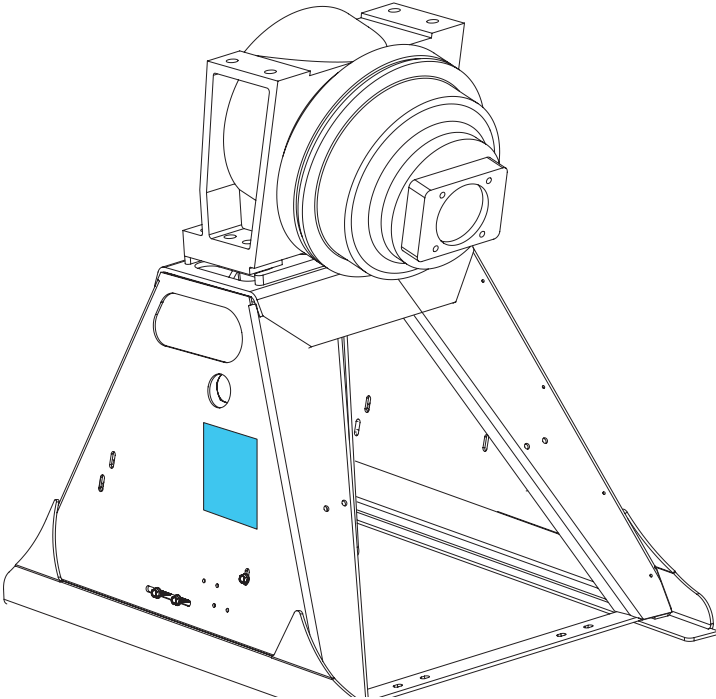

Figure 4
- c. Place and smooth the sign onto the pedestal in the location shown in Figure 4.